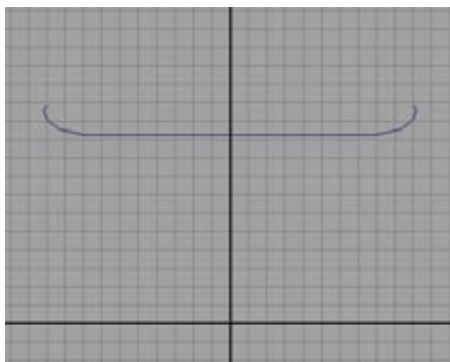

Figure 7.1
1. Start by going to the Side view and creating an elongated U-shaped curve about 10 units high in the y-axis, as shown in Figure 7.1.